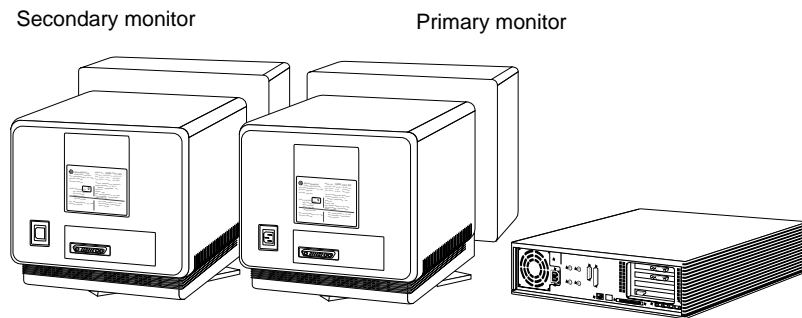

Figure 5-2 Arranging the Monitors in a Side by Side Configuration
1. Facing the front, place the primary monitor on the left and the secondary monitor on the right. The secondary monitor is the monitor that is part of the dual head shipment. See Figure 5-2.